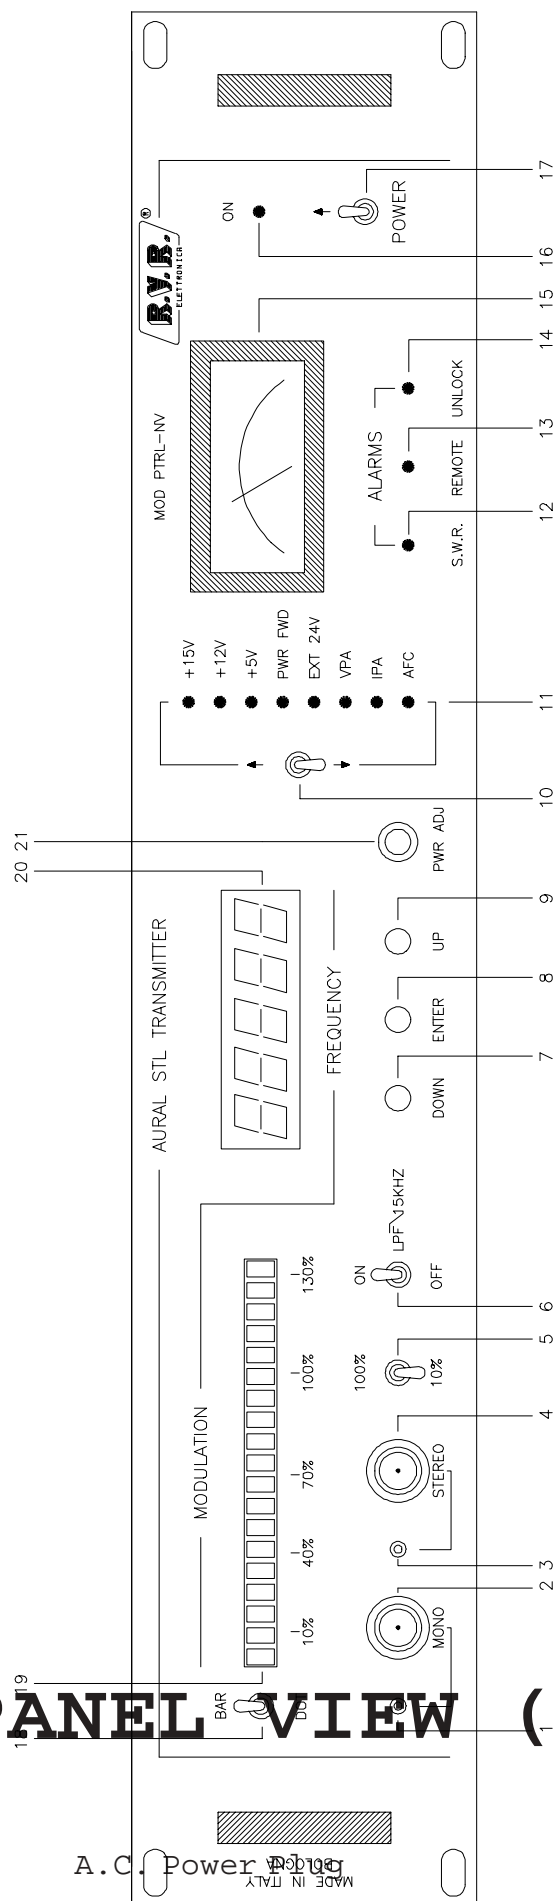

FIG. 1
This circuit comprises two cards and a meter mounted on the right hand side of the front panel (3 Photo1). This sub-assembly displays the values of various operating parameters of the exciter: internal voltages and currents, direct power and external 24V. The parameters are selected by a lever switch (10 Fig.1) and the selection is indicated by the legend of the green led (11 Fig.1). The readings are taken using the corresponding scale:
This circuit also features a red UNLOCK led (14 Fig.1) and a red REMOTE led (13 Fig.1). controlled by the Main card and a red SWR led (12 Fig.1), controlled by the power supply. In addition there are: a red power led (16 Fig.1), a power output PWR trimmer (21 Fig.1) and the mains supply switch (17 Fig.1).
FRONT PANEL DESCRIPTION (FIG. 1)
2) Now ensure that the PWR ADJ control (21 Fig.1) is rotated fully counter-clockwise for minimum power using a small screwdriver.
5) Switch the power switch (17 Fig.1) to the OFF position.
7) Switch the power switch to the ON position and check that the green POWER ON led (16 Fig.1), the red UNLOCK led (14 Fig.1) and the led corresponding to the parameter selection PWR FWD (11 Fig.1), are all lit. After a few seconds the central display (20 Fig.1) will come on and display a number (eg. 760.00) corresponding to the last operating frequency to have been programmed.
The green UNLOCK led should switch on within 30 seconds indicating that the oscillator has locked to the operating frequency displayed. The display has five digits, 3 before the decimal point representing (from left to right) hundreds of MHz, tens of MHz and MHz; and 2 after the decimal point representing hundreds and tens of KHz. To change this number, use the UP (9 Fig.1) and DOWN (7 Fig.1) buttons to respectively increase it and decrease it.
Once the desired frequency has been found, press ENTER (8 Fig.1) to confirm and save it.
To make this measurement, ensure that the PWR ADJ led is on by setting the meter switch (10 Fig.1) to the corresponding position and then take the reading from the 10W FDS scale on the meter.
Set the modulation bar-graph display gain (5 Fig.1) to 100%.
Connect a low-distortion audio frequency generator to the MONO input (2 Fig.1) or STEREO input (4 Fig.1).
Check that the bar-graph display (19 Fig.1) lights upto the first red led, indicating 100% deviation.
With the DOT/BAR switch (18 Fig.1) in the BAR position, all the green leds and first red led will be on; in the DOT position only the first red led will be on.
Now disconnect the audio generator and ensure that all the bar-graph leds go out (19 Fig.1).
Set the control (5 Fig.1) to 10% and inject a 400Hz tone of -30dBm (-20dBm for the american version) and repeat the proceeding operation. The procedure should be followed first for the MONO